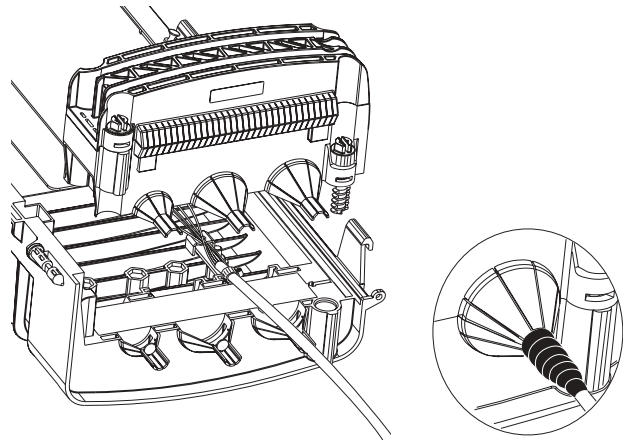

Figure 11 — Reinstall Express Endcap
- Step 5** Reinstall the end cap half as shown in Figure 11 and hand-tighten the two express port screws on each end cap (23 in-lb recommended).
- Step 6** Wrap vinyl tape around the cable and port as shown in Figure 11 inset.